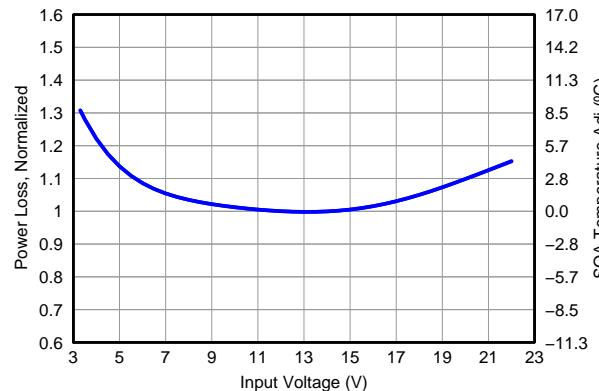

Figure 13. Normalized Power Loss vs Input Voltage
- Normalized Power Loss for input voltage  $\approx 1.05$  (Figure 13)
- SOA adjustment for input voltage  $\approx 1.4^{\circ}\text{C}$  (Figure 13)